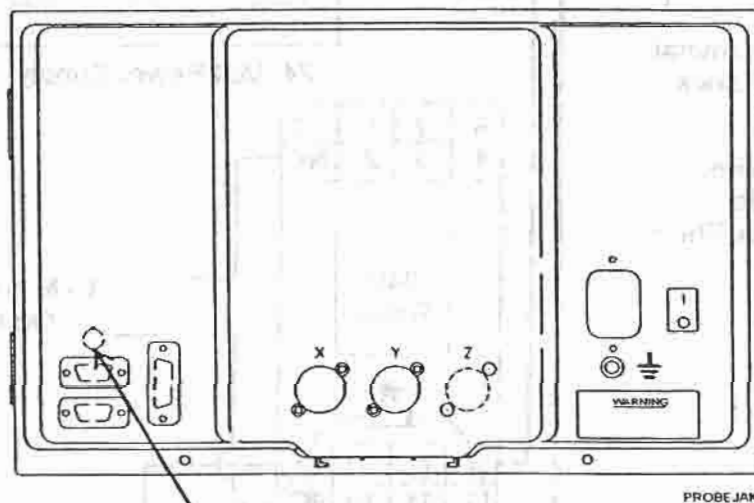

Figure 6, Back of DRO
Plug the other end of the probe cable into the circular jack on the back of the DRO. (Refer to **Figure 6, Back of DRO.**)
4. to **Figure 6, Back of DRO.**)
1. Open the console by removing the two appropriate screws on the back of the console (refer to **Figure 6, Back of DRO**).